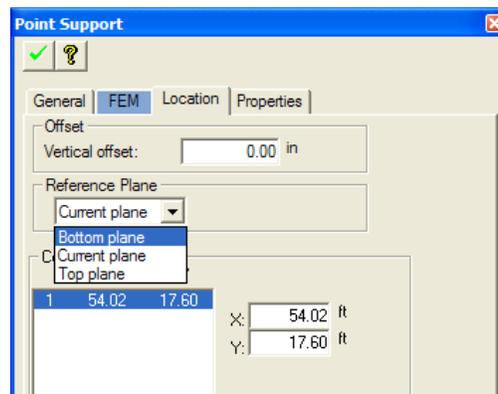

FIGURE 7.6-2 POINT SUPPORT DIALOG WINDOW
- If the point support was not inserted in the location you intended, edit the location by going through the view/edit steps described above. For example, if you want the point support to be at the bottom of a column, open the property box of the point support. From the *General* tab, select *Bottom Plane* for the location (**Fig. 7.6-2**).